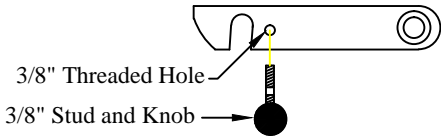

Figure 14: Original Series platform latch knob.
1. **Install** the two (2) knobs on the platform latches (Original Series only) see (Figure 14).